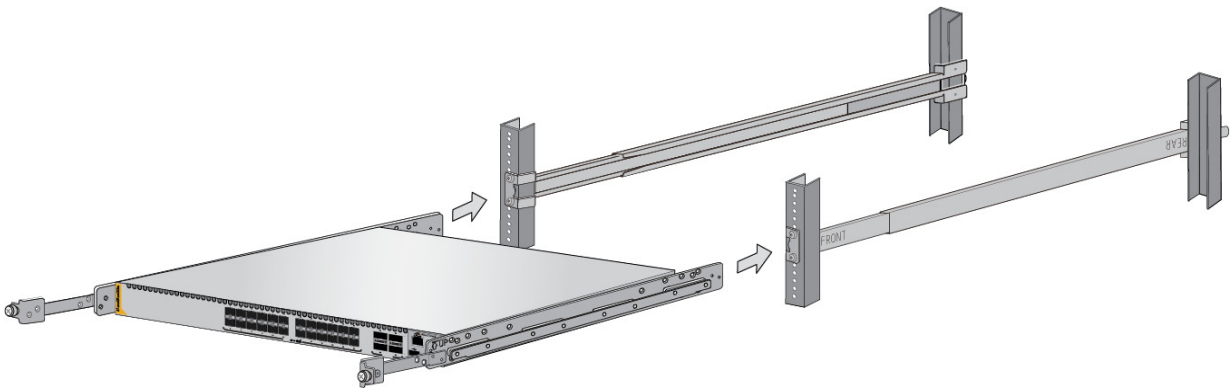

Figure 58. Sliding the Inner Rails on the Switch into the Outer Rails
1. Install the switch in the sliding rack by sliding the inner rails into the outer rail grooves. Refer to Figure 58.